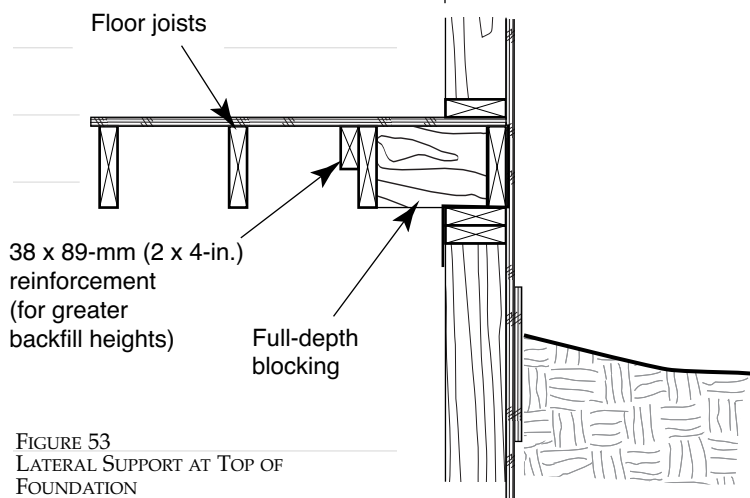

FIGURE 53
- ◆ Where joists run parallel to the wall, provide full depth blocking in line with the wall studs in the first joist space. With greater backfill heights, add a 38 x 89-mm (2 x 4-in.) joist reinforcement to provide increased nailing surface for the floor sheathing (see Figure 53), or install blocking in the second joist space.